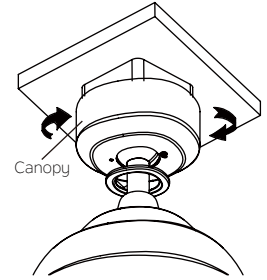

Fig. 17
Step 1. Assemble canopy by rotating key slot in canopy over shoulder screw in mounting bracket. (Fig. 17)